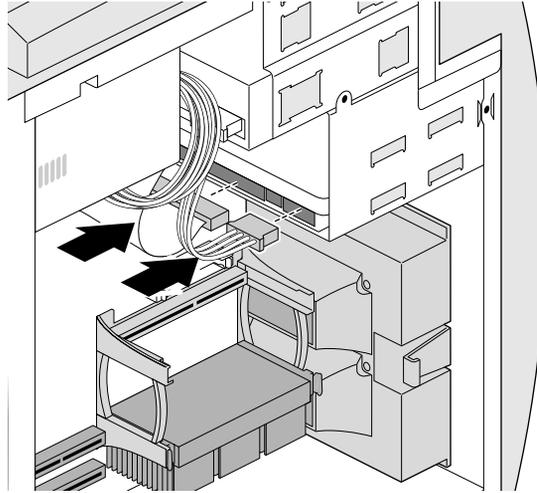

Figure 4-19 Attaching Cables to an Internal Hard Drive
9. Attach the power and ribbon cables to the back of the drive if one is installed, as shown in Figure 4-19.